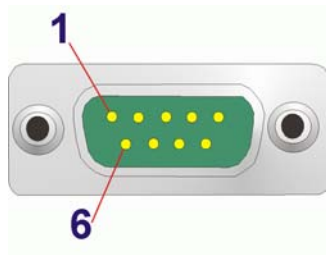

Figure 4-21: COM1 Pinout Locations
- CN Pinouts:** See Table 4-22 and Figure 4-21